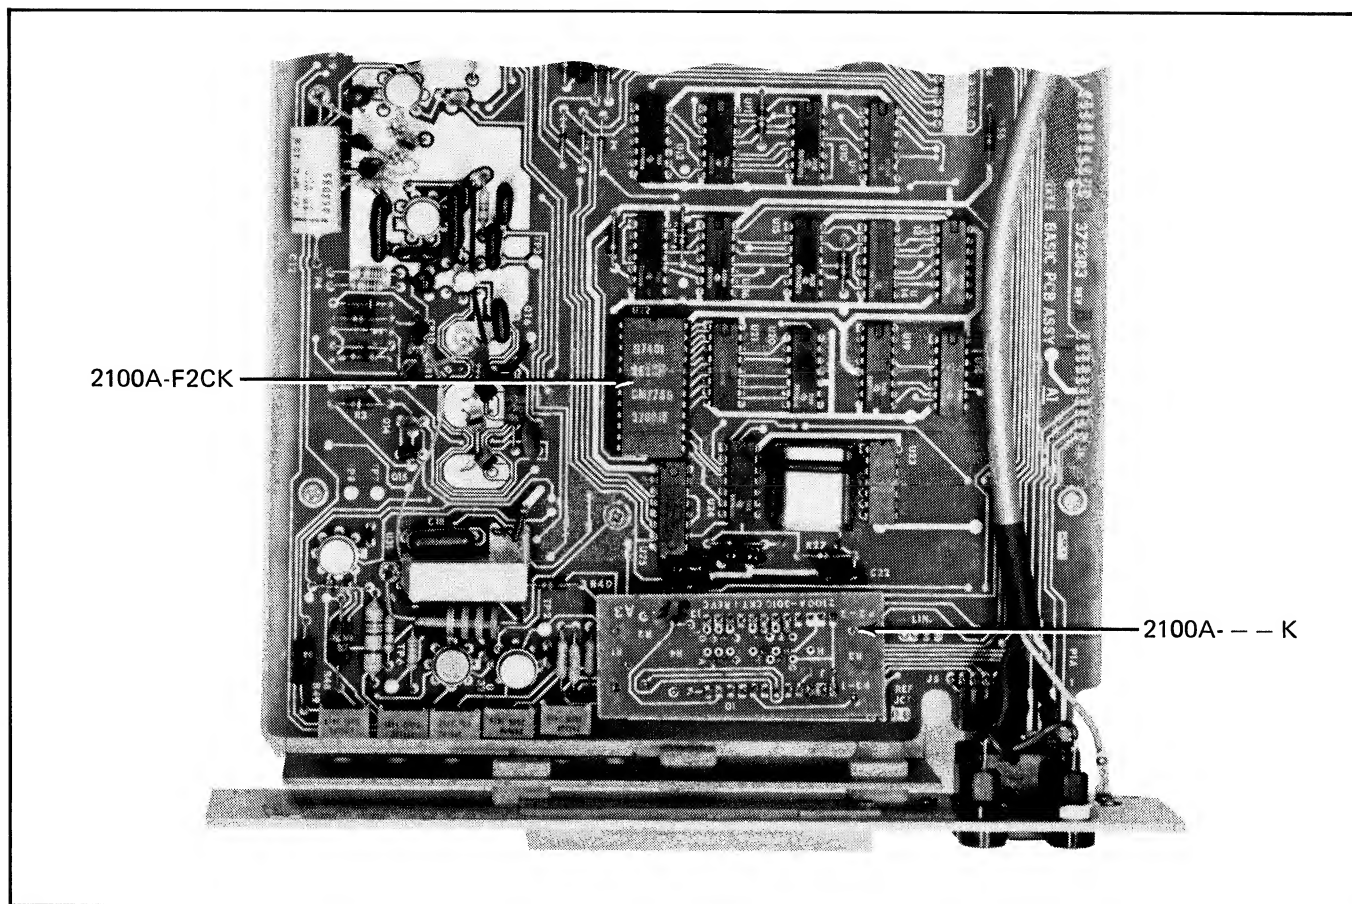

Figure 6-5. 2100A--- K AND F2CK LOCATION
- d. Locate and remove the old thermocouple type PCB (see Figure 6-5). Use both hands, one at each end of the type pcb, to pull the pcb straight up from the Basic PCB Assembly.
- e. Position the new type pcb as indicated in Figure 6-5, i.e., upside down as viewed from the rear of the instrument.
- c. Align the new ROM as shown in Figure 6-5 and press it into place in the IC socket; pin number one should be at the upper left of the ROM as viewed from the rear of the instrument.